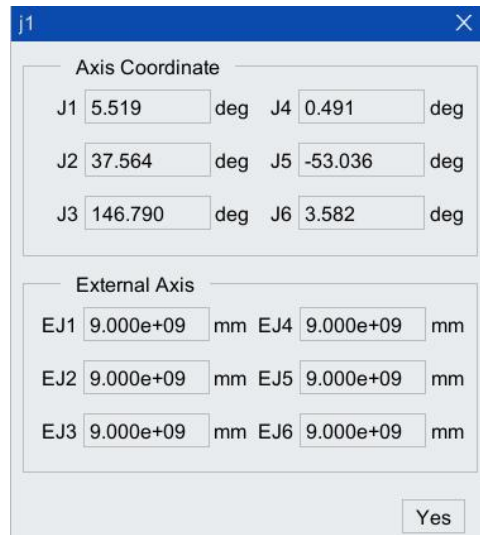

Figure 5-12 "j" variable display box
**Step2.** Click <...> button after the axis position variable j to pop up "j variable" display box in Figure 5-12, which displays the current position information of the robot body axis(J1-J6)and the external axis(EJ1-EJ6). The position is displayed but cannot be modified. Click <Yes> button, and then the current position information can be obtained automatically after the instruction is inserted; if you want to modify it, you must complete the modification through "Revise Cmd" or "Get pose" in the toolbar of the program editor.